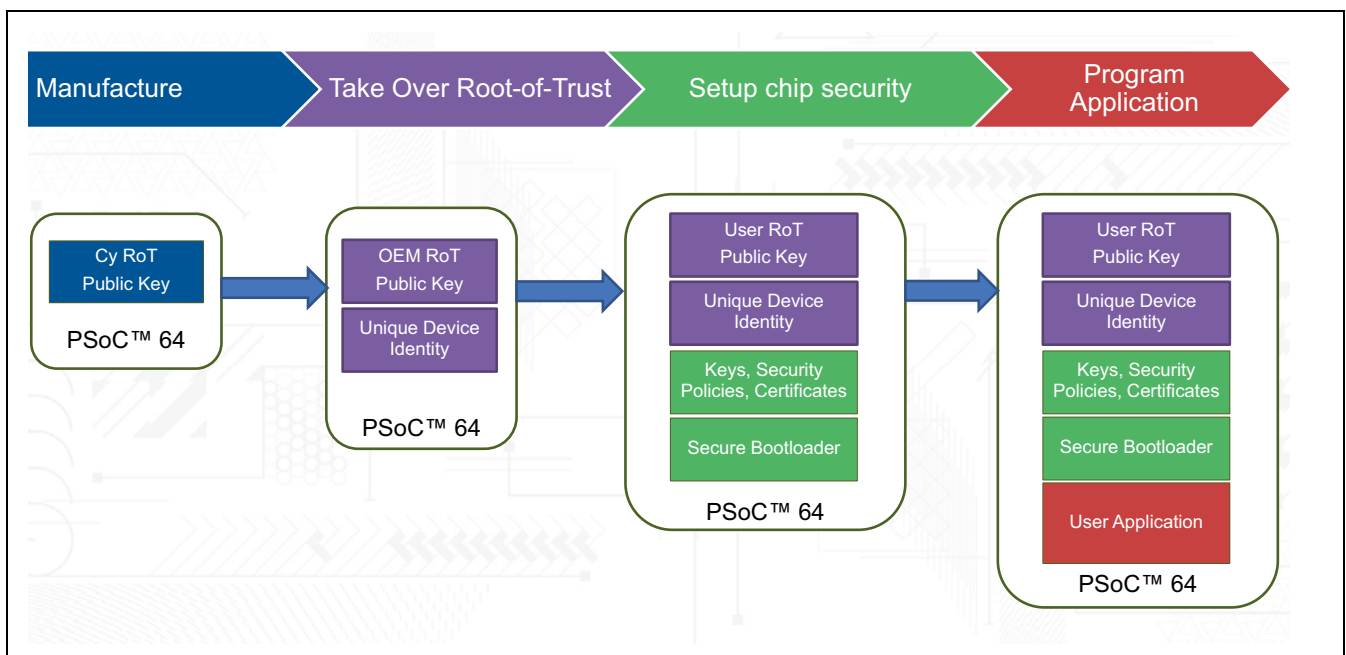

Figure 9 PSoC™ 64 Usage Processes
- Transfer the RoT from Cypress to the user/OEM, as Figure 9 shows